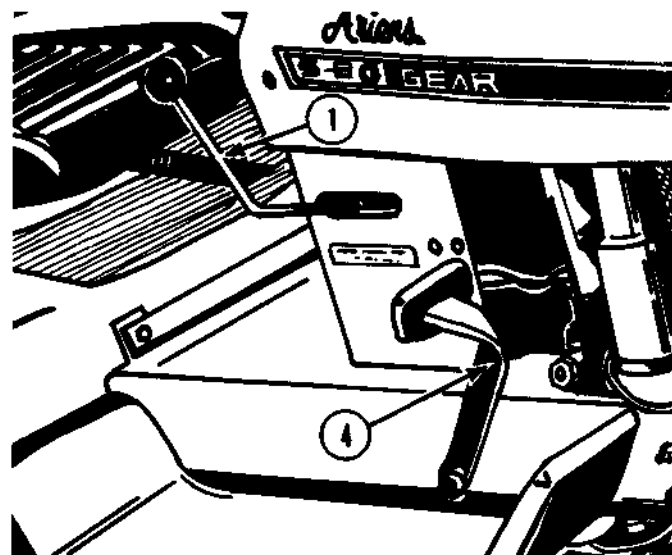

Figure 1
① IMPLEMENT POWER CLUTCH — Figure 1
④ HYDROSTATIC NEUTRALIZER AND BRAKE PEDAL (Hydrostatic Models) — Figure 1